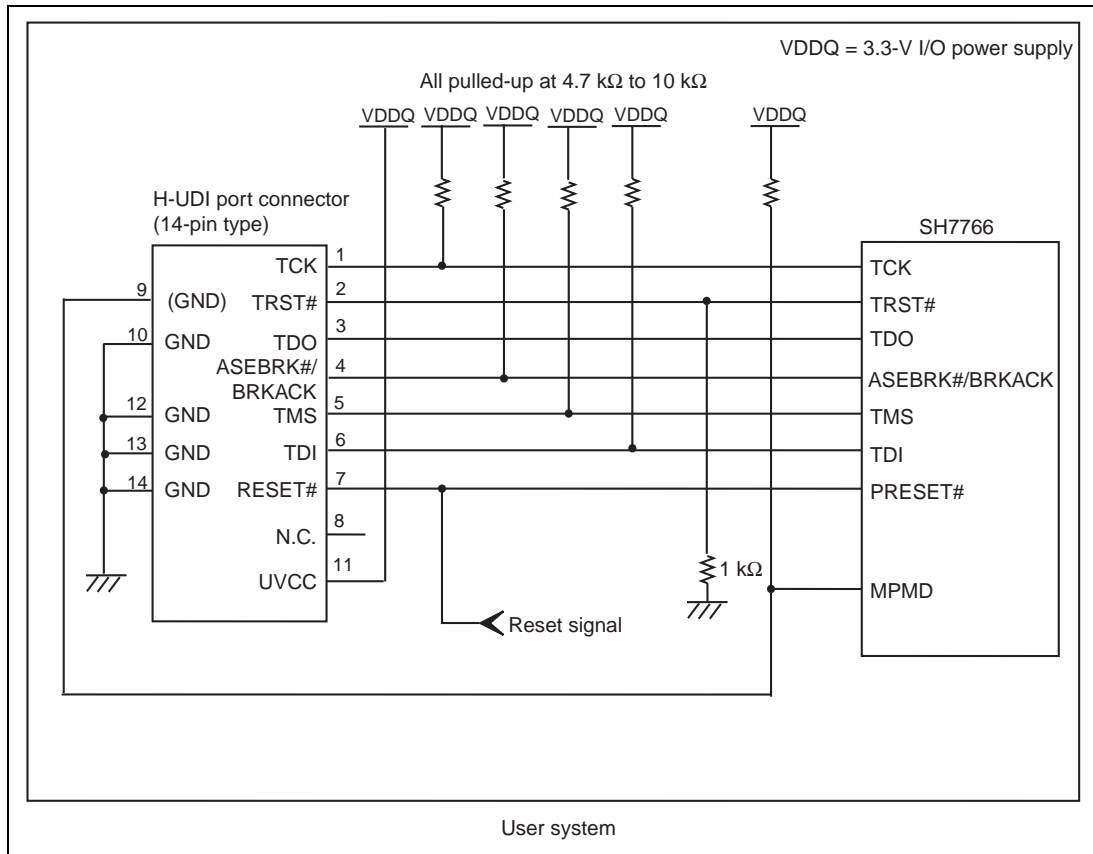

Figure 1.2 Recommended Circuit for Connection between the H-UDI Port Connector and MPU when the Emulator is in Use (14-Pin Type)
Figure 1.2 shows a recommended circuit for connection between the H-UDI port connector (14 pins) and the MPU when the emulator is in use.
- (1) When the emulator is used: $MPMD = 0$
- (2) When the emulator is not used: $MPMD = 1$Figure 1.2 shows an example of circuits that allow the MPMD pin to be GND (0) whenever the emulator is connected by using the user system interface cable. When the MPMD pin is changed by switches, etc., ground pin 9. Do not connect this pin to the MPMD pin.
6. The resistance values shown in figure 1.2 are for reference.
When the circuit is connected as shown in figure 1.2, the switches of the emulator are set as SW2 = 1 and SW3 = 1. For details, refer to section 3.8, Setting the DIP Switches, in the SuperH™ Family E10A-USB Emulator User’s Manual.